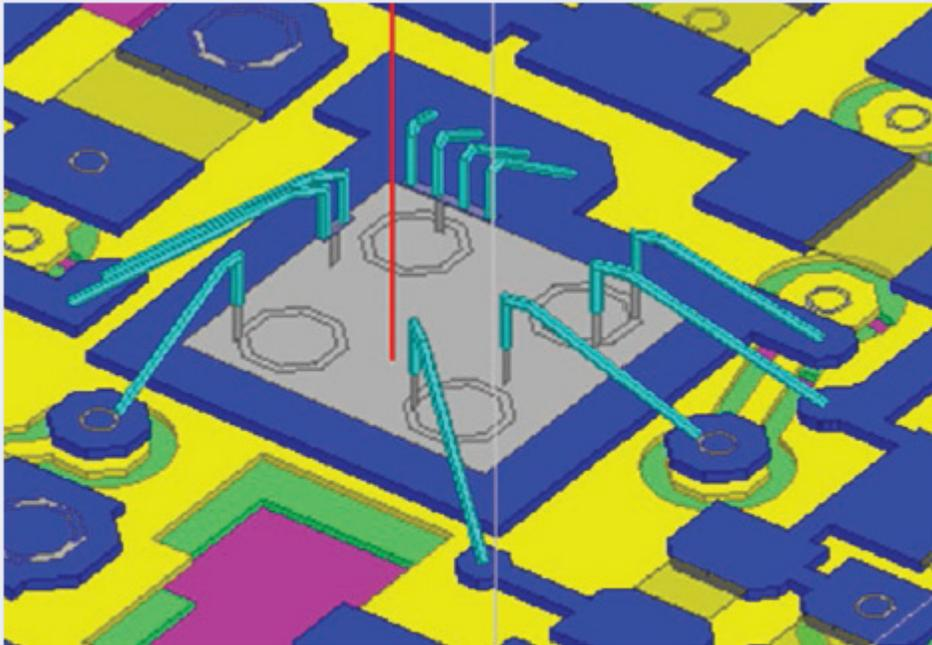

Figure 4: Integrated LNA package module EM example
A level below the top level design, we will describe the model for the package on which the die is assembled. Integrated LNAs have more complexity with routing paths and metal pads than discretes. However, they both have common parasitic elements which need to be extracted through electromagnetic (EM) modeling of the package. An illustration of the parasitic modeling for the integrated LNA and a discrete LNA has been shown in **Figures 4 and 5** respectively.